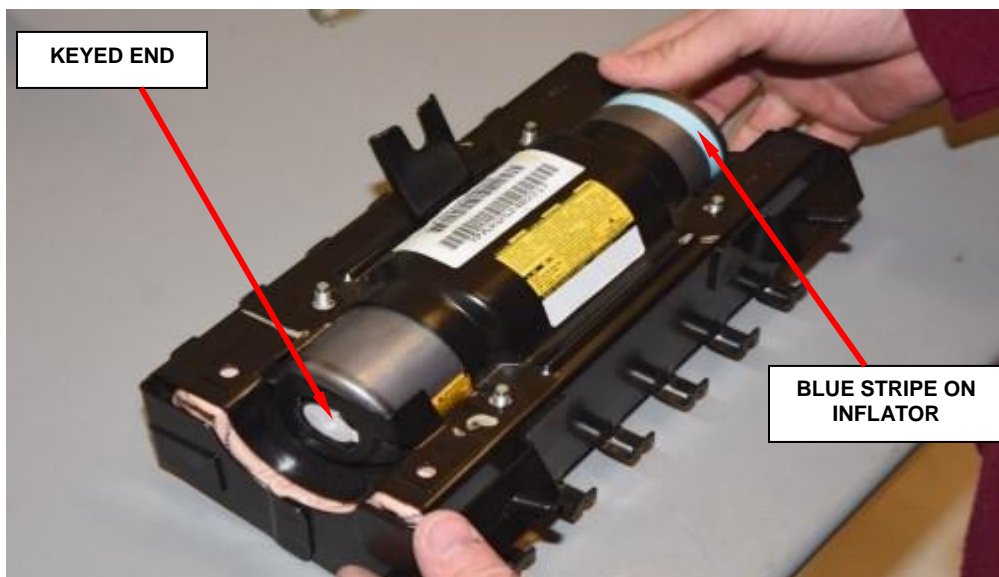

Figure 118 – Insert Inflator (Shown with Cushion Installed)
- i. Slide **new** inflator into housing. The keyed end is inserted first, therefore the blue stripe on the inflator will be located at the open end, as shown (Figure 118).